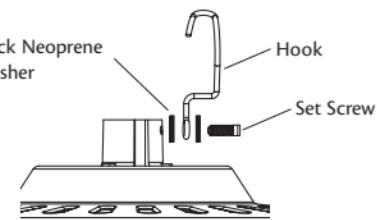

Figure 14 - Assembling the set screw for low profile assembly
- Put the set screw, previously removed, through the two black neoprene washers and the hook as shown in Figure 14. Hook must be installed in same orientation as shown in Figure 14.
- Reassemble the set screw to the adapter as shown in Figure 14. **NOTE:** The rubber washers should be tight enough to keep the hook standing straight up, but the set screw should not be completely tightened as to keep the hook from being able to swing.